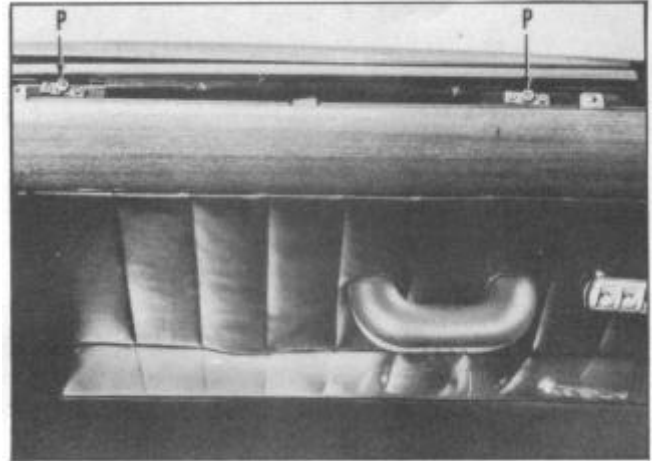

FIGURE 144
3. The adjustable window stops shown at (P) Figure 144, which are accessible when the door garnish moulding is removed, are for the purpose of making minor adjustments